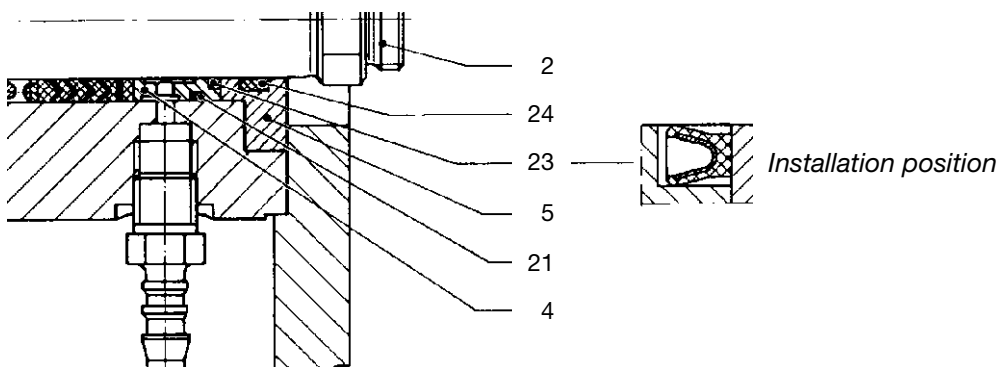

Fig. 10
V-shaped rings - position with the open side towards the liquid end (similar to the FOI-ring (item. 23 in Fig. 10))
- ▶ Draw a new O-ring (21) onto the flushing ring (4)
- ▶ press a new FOI-sealing ring (21) into the flushing ring (4) (observe direction - see Fig. 10)
- ▶ push the flushing ring (4) into the liquid end
- ▶ place the guide ring (5) with a new guide band (24) onto the liquid end and screw tight (5 Nm).
- ▶ now tighten the screws (27)
- ▶ place the liquid end flange (3) onto the liquid end and screw tight (7 Nm)
- ▶ push the piston (2) carefully into the liquid end.